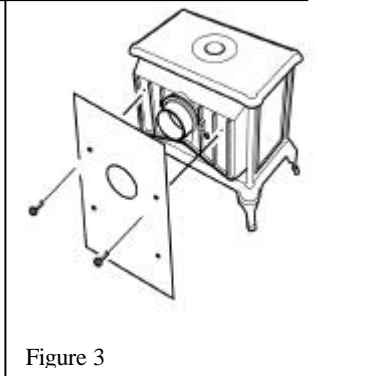

Figure 3
3. Connect the decorative closure plate to the rear of the stove using the screws positioned at the outside of the draught diverter rear. (See figure 3)